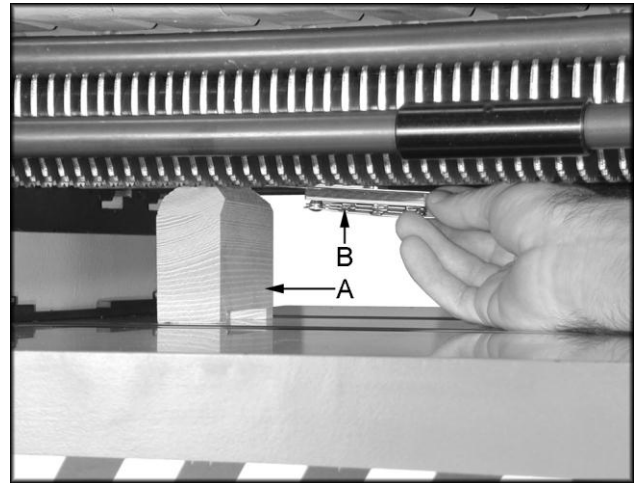

Figure 13
2. Place a hard wood gauge (A, Figure 13) under a knife in cutterhead. Place a 0.02" feeler gauge (B, Figure 13) on top of wood block and raise table until feeler gauge contacts the knife in its lowest position.
2. Place a hard wood gauge (A, Figure 13) under a knife in the cutterhead. Place a 0.02" feeler gauge (B, Figure 13) on top of wood block and raise table until the gauge contacts the knife in its lowest position.
2. Place a hard wood gauge (A, Figure 13) under a knife in the cutterhead. Place a 0.02” feeler gauge (B, Figure 13) on top of wood block and raise table until the gauge contacts the knife in its lowest position.